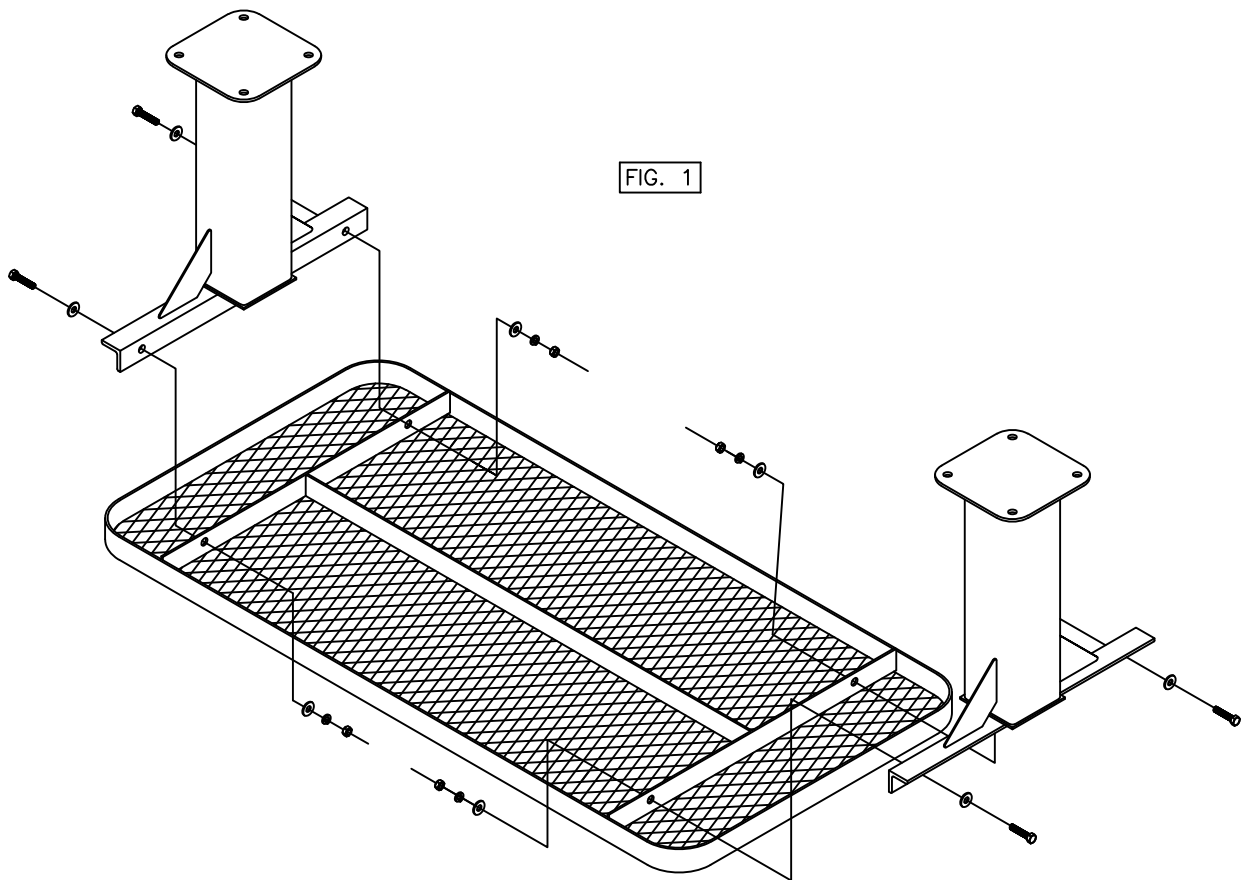

FIG. 1
Invert the (A) seat upside down on a flat surface. Attach both (B) legs to the outer most part of the seat's brackets, see FIG. 1. Use, per each leg, two (C) and (E) using two (D) and one (F) per (C).